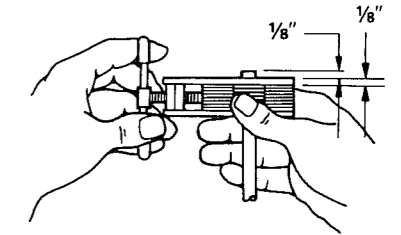

Fig. 1
3. Insert tubing into the adjustable opening of the tube-holding assembly. Position the end of the tubing approximately 1/8" above the top surface of the holder. Cover plates of the holder are 1/8" thick and can be used as a comparison gauge for positioning tubing. (See Fig. 1.)